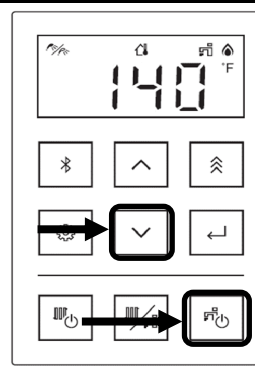

Fig 1. "Down" and "DHW" Buttons
- Press and hold the **▼** (Down) button for two seconds (Fig 1).
- While holding the **▼** (Down) button, press and hold the "Domestic Hot Water" (DHW) button (hold both buttons at the same time) (Fig 1).